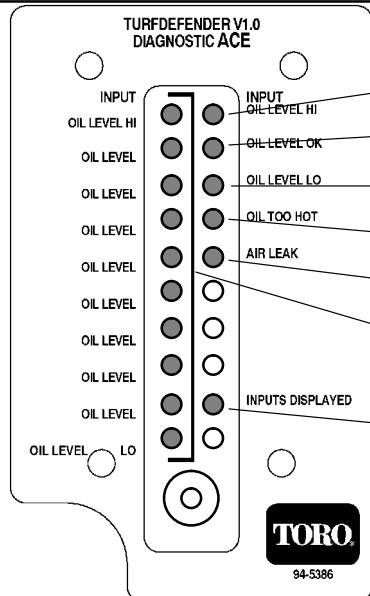

Figure 9
1. When the "Inputs displayed" LED is lit (Fig. 9),
1. When toggling "input", a LED should display (Fig. 9) any of the following problems diagnosed by the TurfDefender: